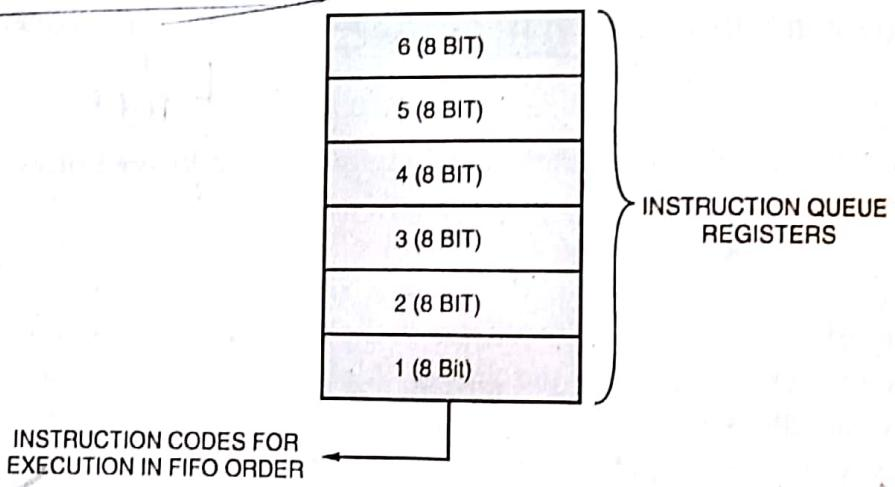

Fig. 17.4.
Instruction Queue (IQ) and Pipelining. There are 6 eight bit registers in the instruction queue of 8086 as shown in Fig. 17.4. Initially the program is prepared using the instruction in form of mnemonics. Each mnemonics is then translated into Hexadecimal